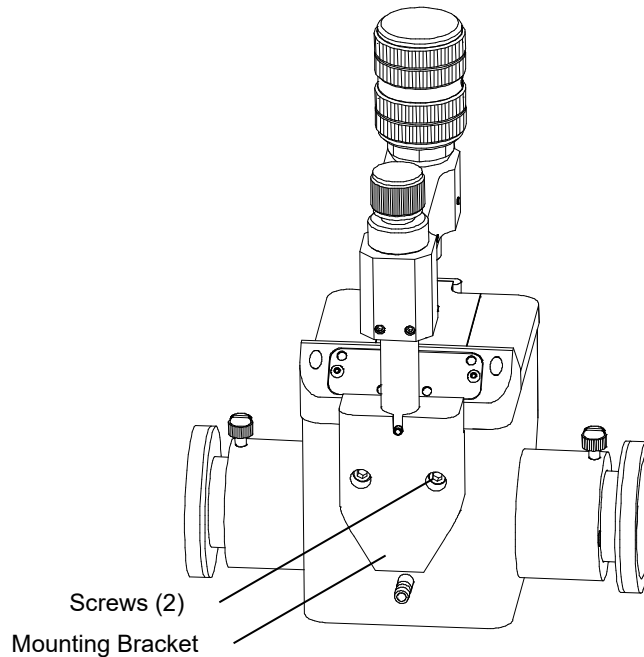

Figure 28 • Securing the Wire Under the Mounting Bracket
- Unscrew the two screws on the back of the accessory (see Figure 28) and pull the mounting bracket straight back, away from the rest of the unit.